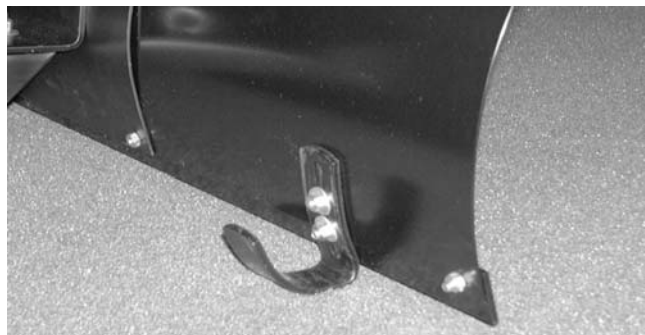

**Figure 12-77.**
16. Insert the end of the lower lift handle through the slot in the pivot support bracket and the hole in the push bar channel. The hole in the link on the end of the handle goes over the long pin on the lift link. See Figure 12-77.
17. Secure the lower handle with a hairpin clip. See Figure 12-77.